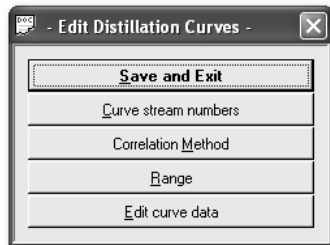

Figure 9-03: The Edit Distillation Curves menu
9. This brings up the Edit Distillation Curves menu, shown in Figure 9-03.